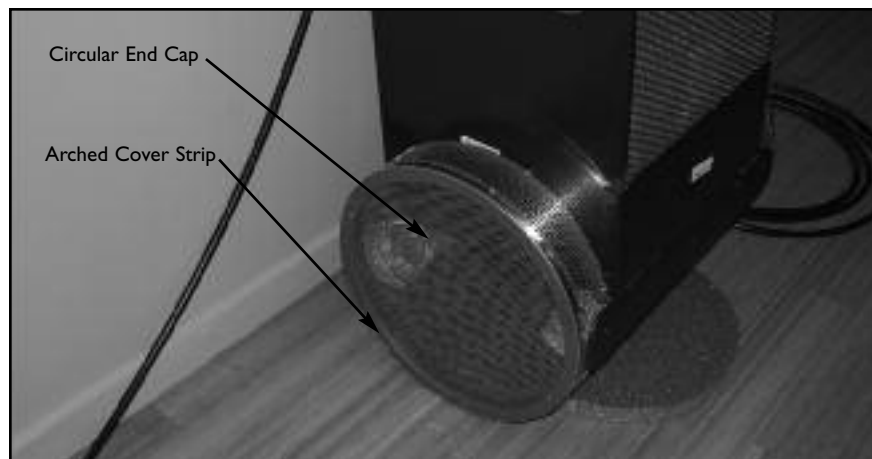

Fig. 9.11
9.14 Re-install the circular end caps. Make sure that the “smooth” surface of the end caps are facing out. Align the end caps to the internal PVC supports so that the holes in the internal supports are aligned with holes in the end caps. Position the arched cover strips over the end caps, making sure to align the hole in the arched cover strips with the holes in the stainless end caps and the internal PVC supports. Install the nine screws (3 per cover strip) that were removed in step 2. Repeat for the remaining end cap (Fig 9.11).